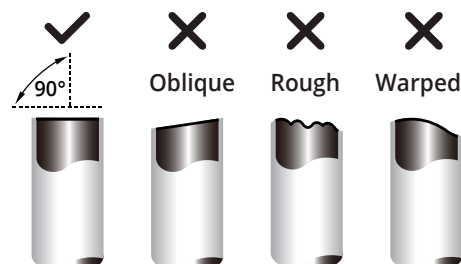

Fig. 6.1
3. Make sure that the pipe is cut at a perfect 90° angle. Refer to **Fig. 6.1** for bad cut examples.